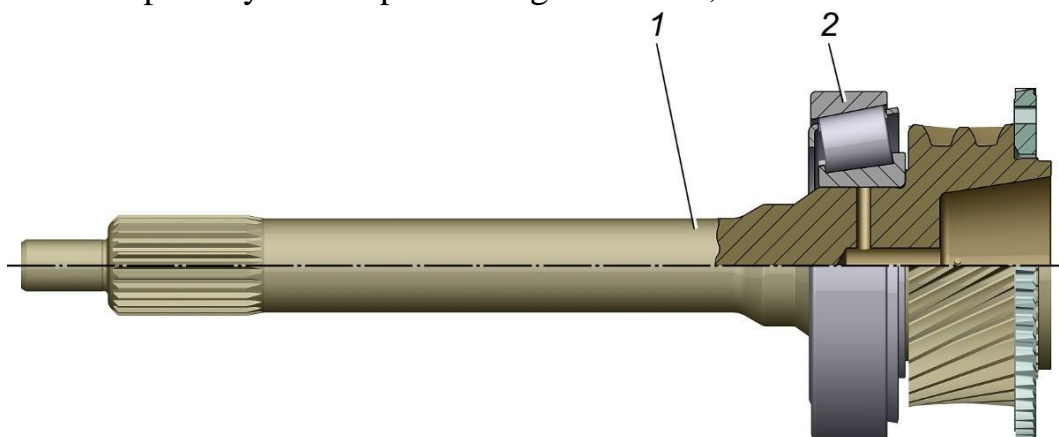

Fig. 3.17. Primary shaft assembly: 1 – primary shaft; 2 – roller bearing
- press the taper bearing 2 (Fig. 3.17) inner race on the primary shaft 1 journal all the way to end face;